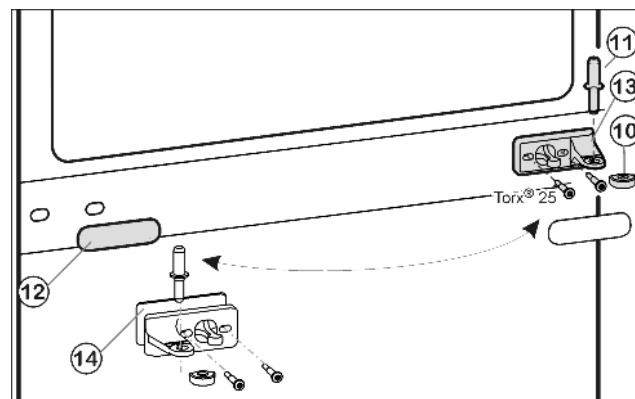
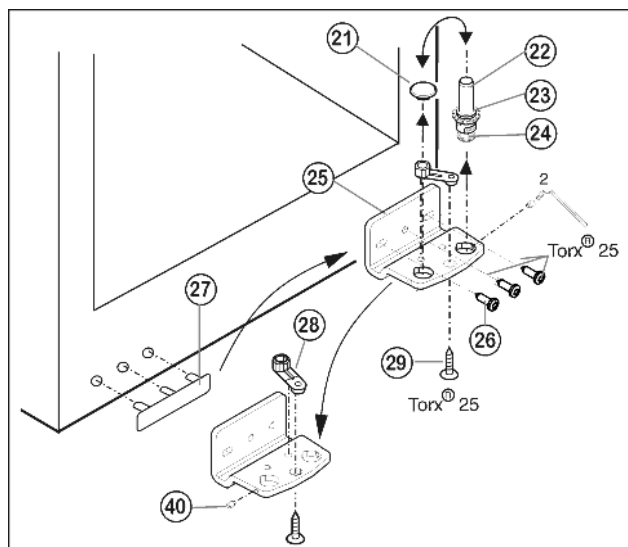

Fig. 5
Fig. 7
- Draw the middle bearing pin Fig. 5 (11) out of the turn hinge and lower door.
- Remove the plastic cap Fig. 5 (10).
- Unscrew the middle turn hinge (2x Torx® 25). Fig. 5 (13)
- Carefully detach the cover panel Fig. 5 (12).
- Turn the middle turn hinge Fig. 5 (13) with the washer Fig. 5 (14) through 180° and screw it firmly into place on the new hinge side (with 4 Nm).
- Turn the cover panel *Fig. 5 (12)* through 180° and snap it into place again on the new handle side.
- Using the accompanying Allen key, unscrew the threaded pin *Fig. 7 (40)* by about 1 turn.
- Turn and lift out the bearing pin *Fig. 7 (22)* together with the washer *Fig. 7 (23)* and adjustable-height foot *Fig. 7 (24)*.
- Lift out the stopper *Fig. 7 (21)*.
- Unscrew *Fig. 7 (26)* the turn hinge *Fig. 7 (25)*.
- Fully unscrew the threaded pin *Fig. 7 (40)* and screw it in on the opposite side, at the turn hinge, until it is flush outside with the turn hinge.
- Unscrew *Fig. 7 (29)* the bearing element *Fig. 7 (28)*, transfer it to the opposite location hole of the turn hinge and screw it firmly into place.
- Re-insert the stopper *Fig. 7 (21)* into the other hole.
- Carefully lift off the cover on the handle side *Fig. 7 (27)* and transfer it to the opposite side.
- Screw the turn hinge *Fig. 7 (25)* firmly into place on the new hinge side, possibly using a cordless screwdriver (**with 4 Nm**).
- Screw the bearing pin *Fig. 7 (22)* into place again, complete with washer and adjustable-height foot.
- Tighten the threaded pin *Fig. 7 (40)*.
- ▶ Place the lower door from above onto the lower bearing pin *Fig. 7 (22)*.
- ▶ Place the plastic cap *Fig. 5 (10)* back onto the middle turn hinge *Fig. 5 (13)*.
- ▶ Place the middle bearing pin *Fig. 5 (11)* in the lower door, on the new hinge side, through the middle turn hinge *Fig. 5 (13)*.
- ▶ Place the upper door on the middle bearing pin *Fig. 5 (11)*.
- ▶ If necessary, align the doors to the appliance housing by way of the two oblong holes in the bottom turn hinge *Fig. 7 (25)* and middle turn hinge *Fig. 5 (13)*. To do so, unscrew the middle screw in the bottom turn hinge *Fig. 7 (25)*.